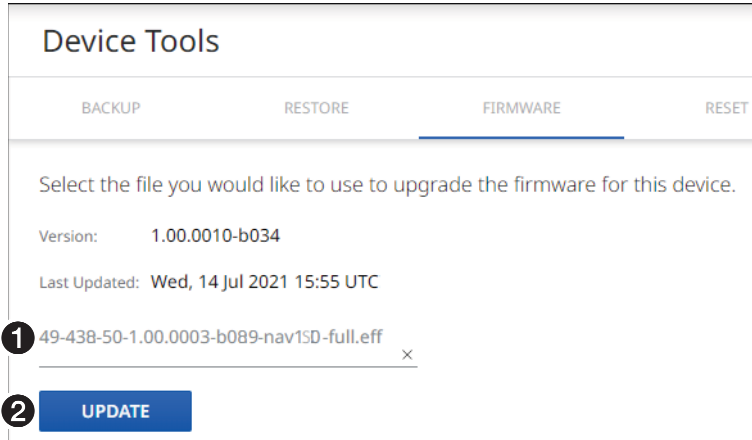

Figure 33. Device Pane with Firmware File Identified
4. Click **Open** (❷). The Open dialog box closes and the Tools pane returns to the top, with the selected firmware file identified (see figure 33, ❶ on page 37).